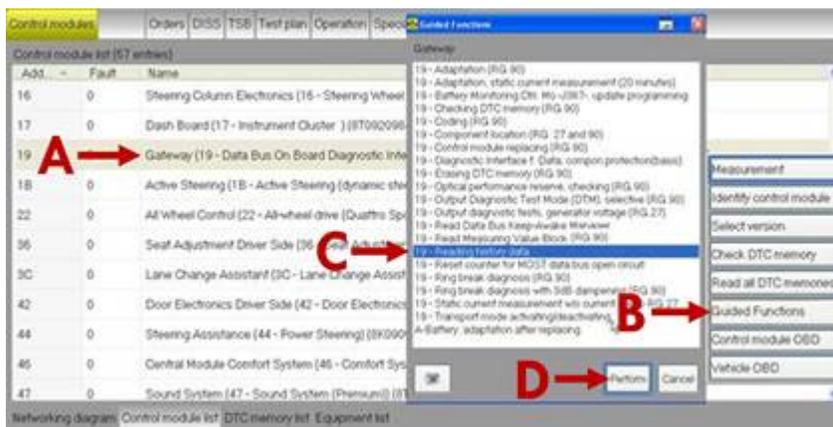

Figure 4. Accessing Reading history data through the Control modules tab.
- Open the Control modules tab (Figure 4):
- Right-click on the **Gateway module (19)** (A).
- Select **Guided Functions** (B).
- In the Guided Functions window, select **Reading history data** (C).
- Select **Perform** (D).